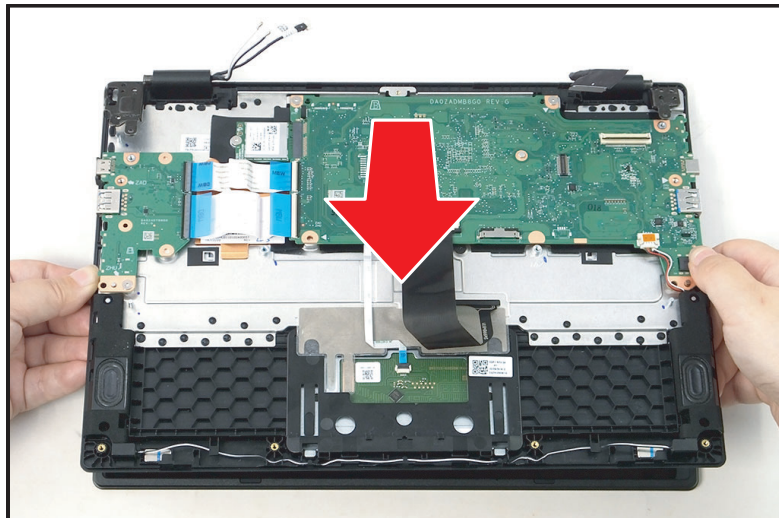

Figure 3-14. LCD Module Removal
9. Slide and then remove the top assembly from the LCD module (Figure 3-14).